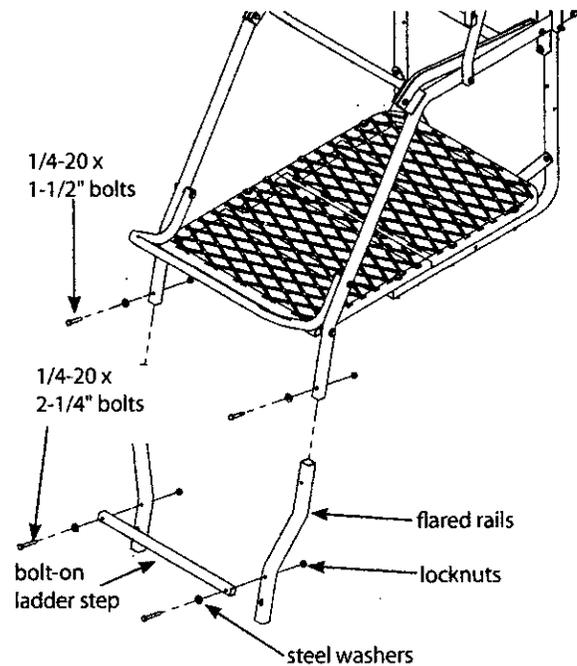

Figure 9
- Insert the two side rails into the flared rails (410054). Secure using (2) provided 1/4-20 x 1-1/2" bolts, locknuts and steel washers. **SEE FIGURE 9.**
- Attach the bolt-on ladder step (410034) to the front side of flared rails using (2) provided 1/4-20 x 2-1/4" bolts, locknuts and steel washers. **SEE FIGURE 9.**